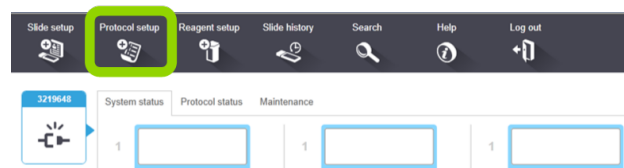

Figure 11: Protocol setup icon
- Click the **Protocol setup** icon (see Figure 11).